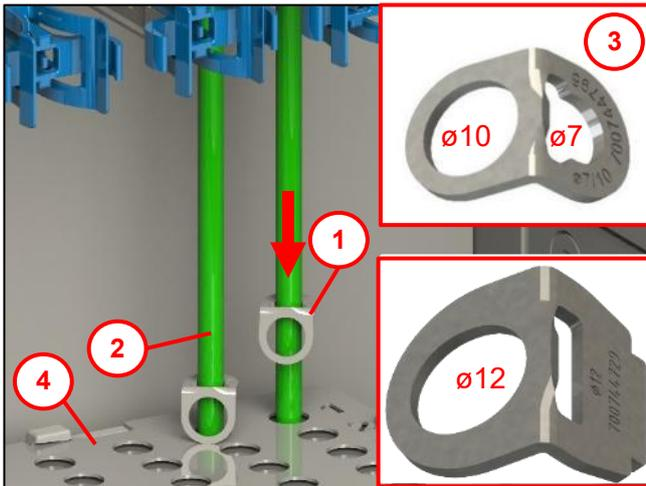

Fig. 16
Note: For reasons of space, the micro-duct pipes (3) ($\varnothing 10 / \varnothing 12$) and micro-duct gas stops (2) must be graduated, see Fig. 16.